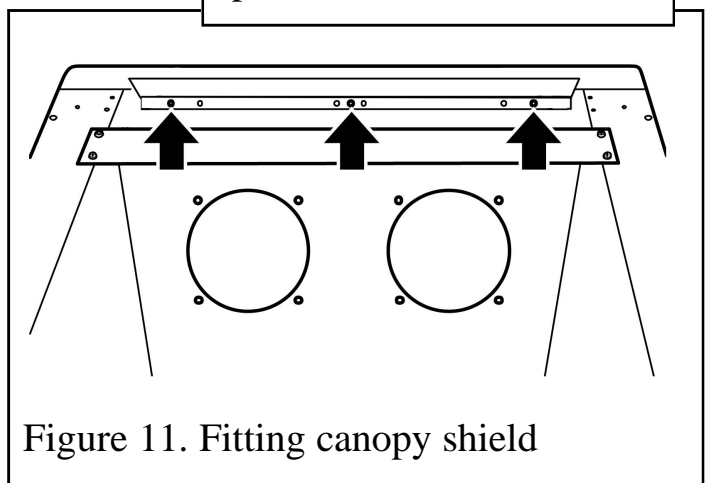

Figure 11. Fitting canopy shield
6. The heat engine or fascia will have a canopy shield supplied with it. Fit this to the convected air outlet of the appliance using the three self tapping screws supplied. The design of the canopy shield may differ from that shown (See figure 11).